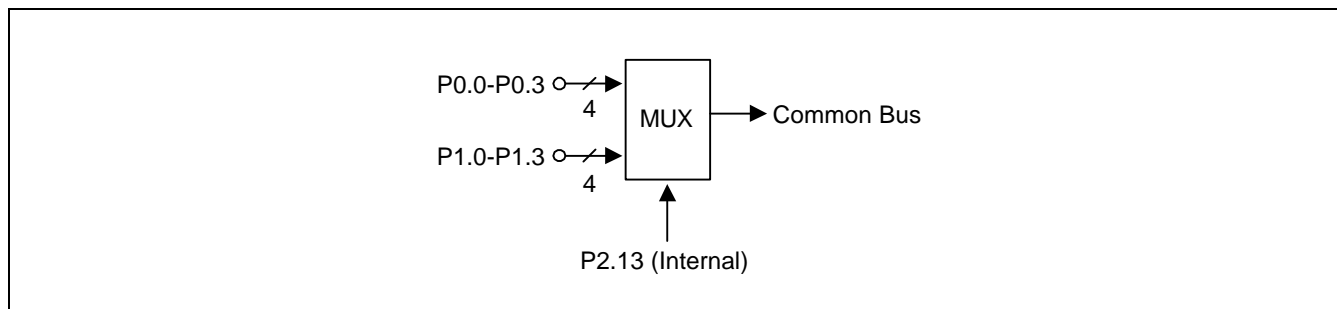

Figure 1-14. KS51840 Input Port
A page select instruction (PAGE #n) loads the value "n" into the PB. When JP or CALL instruction is executed, and if the Status Flag (SF) is set to 1, the contents of PB are loaded into PA. If SF is "0", however, the JP or CALL is executed like NOP instruction and SF is set to "1". The contents of PB don't be loaded. Figure 1-14 illustrates this concept.